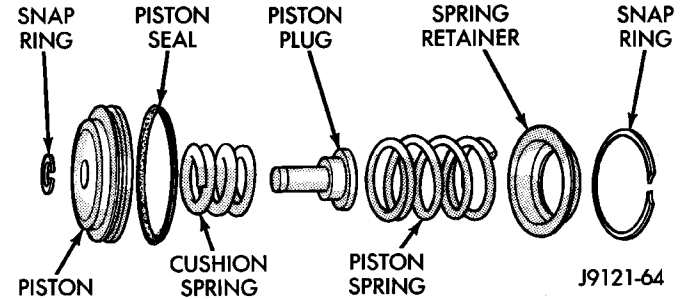

Fig. 138 Rear Servo Components
- (1) Remove small snap ring and remove plug and spring from servo piston (Fig. 138).
- (2) Remove and discard servo piston seal ring.